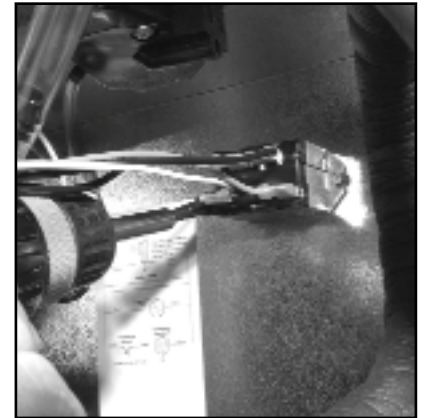

Figure 7
E. Mount relay to back wall using provided self tapping screws. (See figure 7).